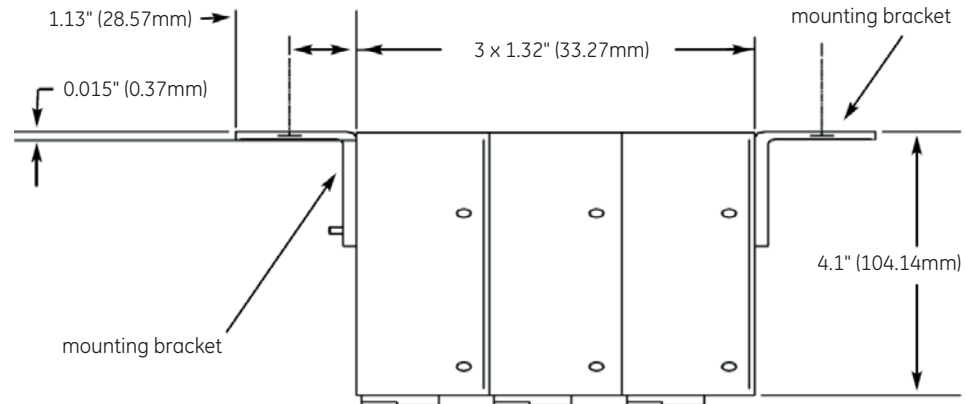

Figure 3-8: Output modules mounting (overhead view)
- ▷ If multiple output modules are connected together, as shown in Figure 3-8: *Output modules mounting (overhead view)*, or an individual module is used, secure the mounting brackets to both ends of the group (or individual module) using the screws supplied (#440 pan-head screws).